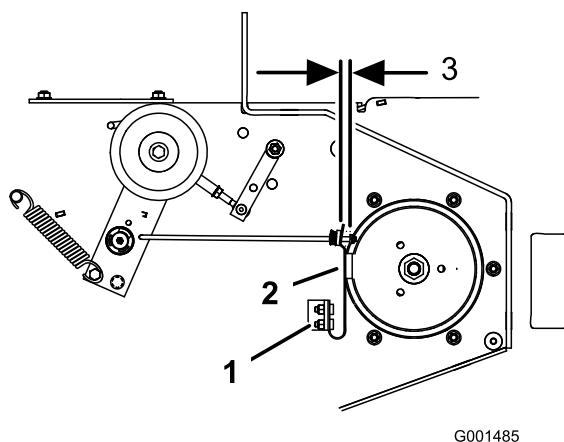

Figure 65
3. If necessary, adjust the spring mounting bolts so that the blade brake pad rubs against both sides of the pulley groove (Figure 65).
4. Adjust the nut at the end of the blade brake rod until there is 1/8-3/16 inch (3 mm -5 mm) between the nut and spacer (Figure 65).